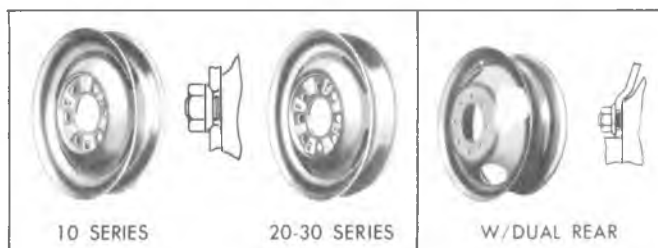

Fig. 1—Front Wheels and Attachments
4. Mark the relationship of the pitman arm to the pitman shaft. Remove the pitman shaft nut or pitman arm pinch bolt and then remove the pitman arm from the pitman shaft using Puller J-6632 (fig. 1).